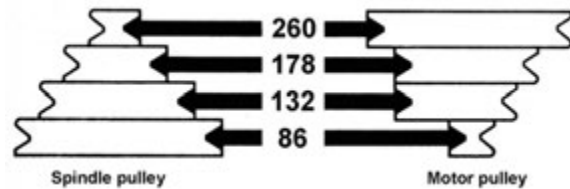

Figure 8-4
- 4) Turn screws (M) clockwise to push motor mount plate, relieving tension on belt.
- 5) Move belt to desired pulley combination. Refer to chart inside pulley cover (reproduced in Figure 8-4).